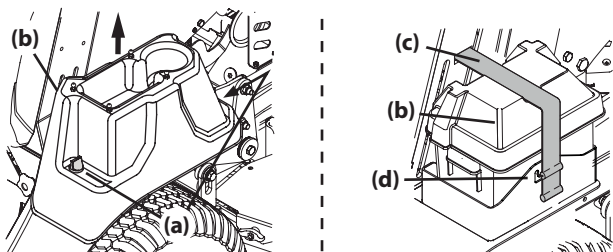

Figure 4
- Mowers with 48, 54 or 60 Inch Decks - Remove the two thumb screws (a) securing the battery cover (b) to the right fender. Lift up to remove the battery cover (Figure 4).
- Mowers with 36 Inch Decks - Unhook the rubber strap (c) securing the battery cover (b) to the battery tray (d). Lift up to remove the battery cover (Figure 4).